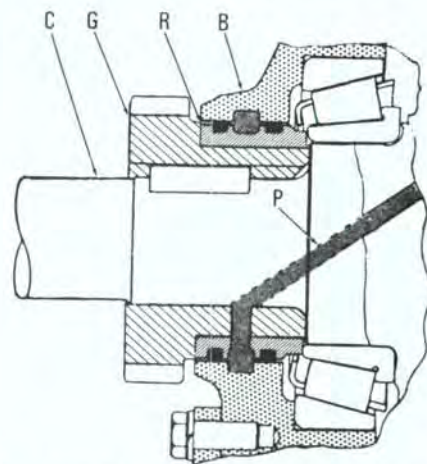

Fig. 29—On Model L210, pressurized oil enters crankshaft through drilled crankshaft gear as shown.
Crankshaft gear (4) is a light thumb-push fit on shaft. Gear hub is machined and drilled to direct pressurized engine oil to drilled crankshaft for connecting rod, cylinder and piston lubrication, as shown in Fig. 29.